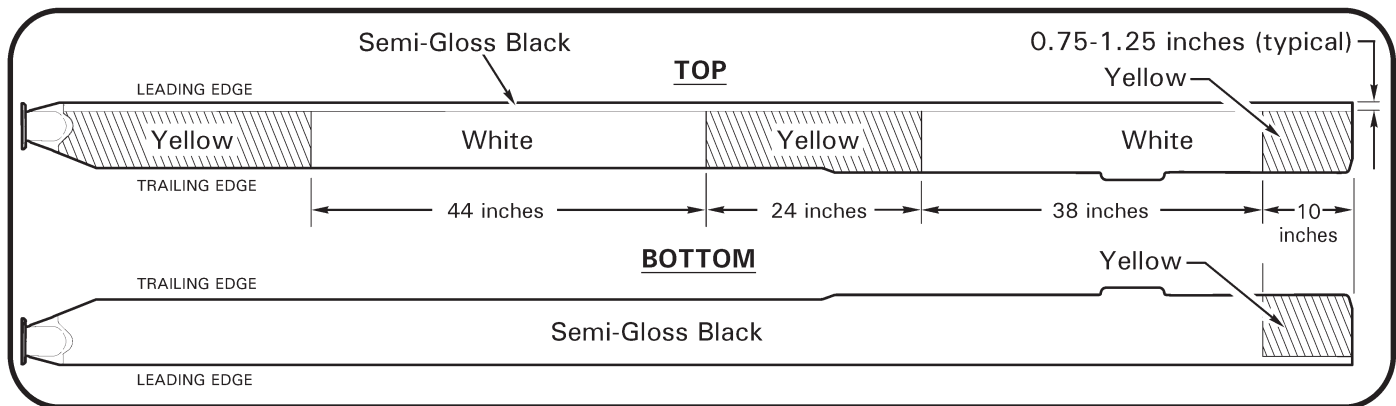

FIGURE 26-17 MAIN ROTOR BLADE PAINT SCHEME (A016-6 BLADE SHOWN)
6. Refer to Figure 26-17. Apply dark gray (root), flat black, white, and/or yellow polyurethane enamel, as required, to primed area in accordance with paint manufacturer's recommendations.